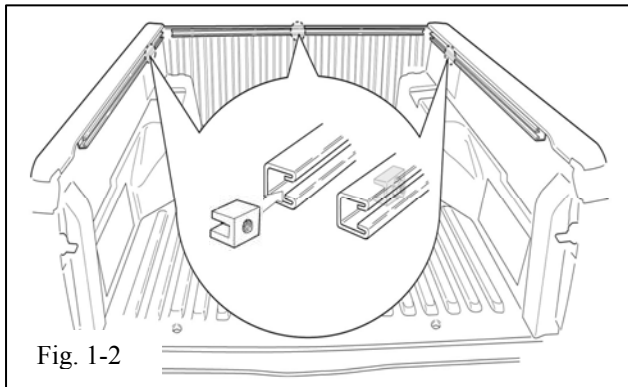

Fig. 1-2
- (b) Slide one C-Channel Retainer into each side rail and position them approximately 30" back from the front bed bulkhead. (Fig. 1-2)
- (c) Slide one C-Channel Retainer into the front rail and align with center rail mounting screw. (Fig. 1-2)